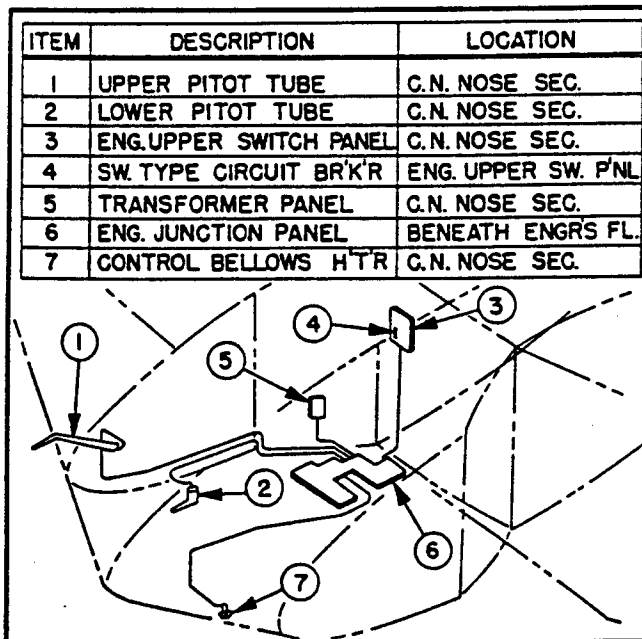

Figure 9. Control Force Bellows Heating Circuit
2. HEATING ELEMENT CONTROL AND CIRCUIT. (See figure 9.)- The heater is operated by a circuit breaker type switch on the engineer's upper electrical control panel. This switch also controls the operation of the upper and lower pitot tube heaters. The heater operates on a 30 volt, grounded, a.c. circuit which is tapped from a transformer in the transformer panel which takes its current from the ring bus through a limiter.